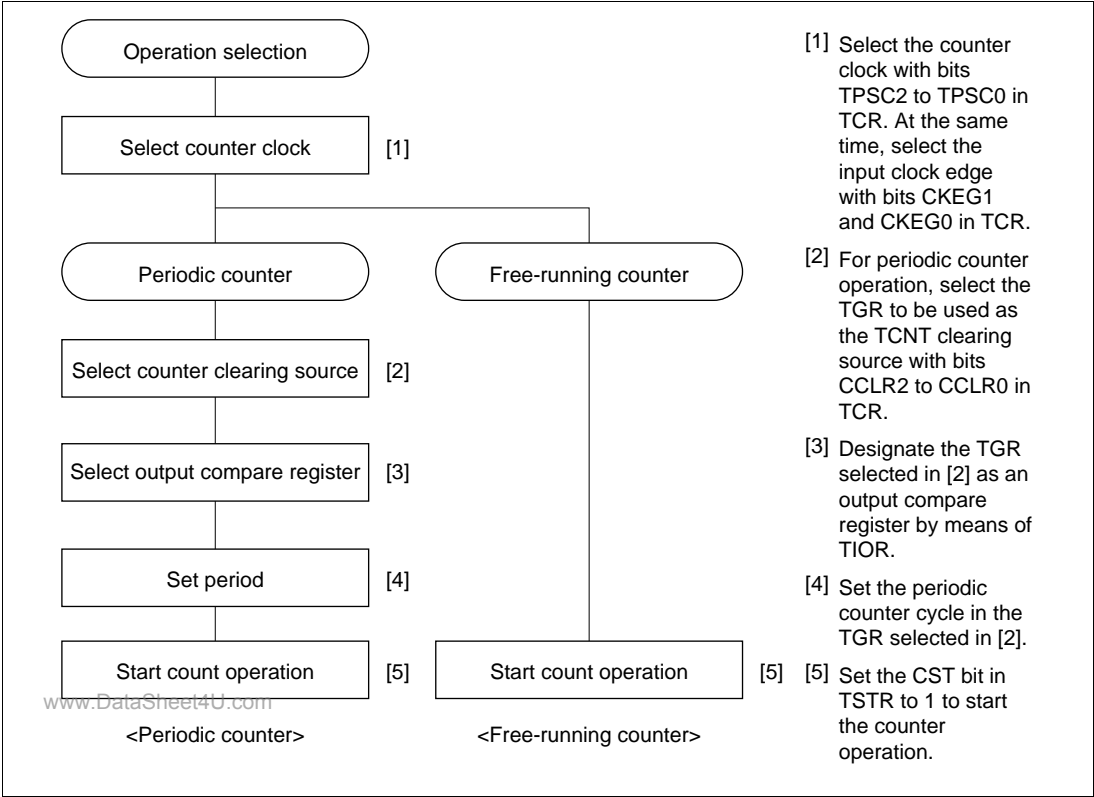

Figure 9.6 Example of Counter Operation Setting Procedure
- Figure 9.6 shows an example of the count operation setting procedure.